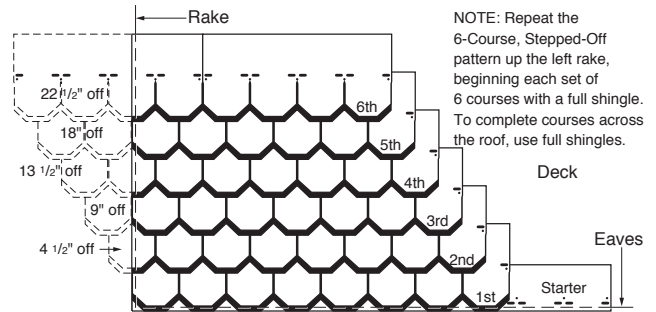

Figure 17-15: Four-and One-Half Off, Six Up (Carriage House).
2. Locate fasteners in starter strip about 1½" up from the bottom edge, so they are centered under the first-course tabs. Continue with full 10" by 36" lengths along the eaves (*Figure 17-15*).
1ST COURSE: Apply a full shingle at the lower left corner of the roof, tabs flush with starter course (*Figure 17-15*).